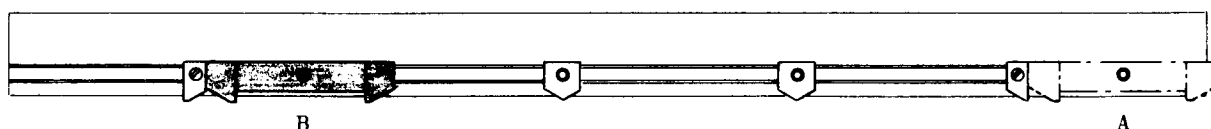

Fig. 1
*If the dividing head is used in conjunction with the quadrant, the feed of the table to the right must be limited, i.e., reduced, in order to avoid accidents. For this purpose the special double stop, as fixed at A in Fig. 1 should be shifted to the point B and there secured.*